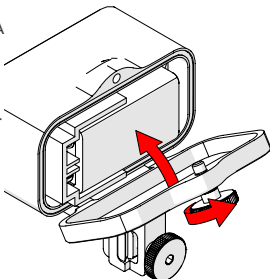

Fig. 36 - Close battery compartment
4. Close the battery compartment and tighten the knob (*Fig. 36*).